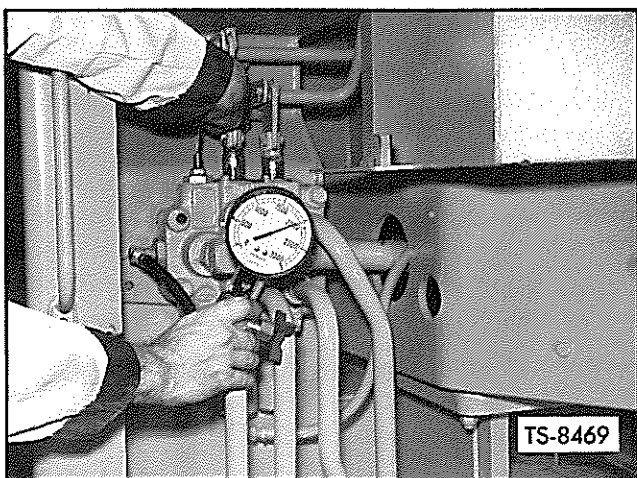

**Fig. 38. Check Pressure — Boom and Bucket Control Valve**
3. Remove pipe plug and attach gauge as shown in Figure 38. Attach safety links, apply parking brake and block wheels.